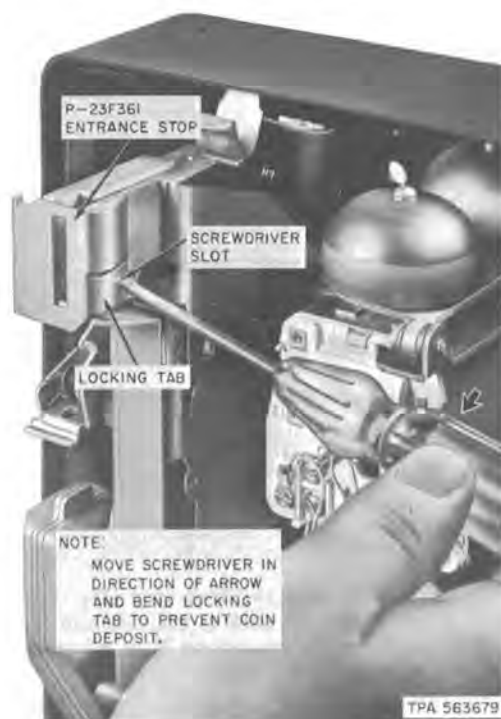

Fig. 13—Adjustment of Entrance Stop to Prevent Coin Deposit
4.21 The P-23F361 entrance stop (Fig. 13) is installed on the chute to minimize coin chute stuffing. When the coin release lever is operated, the entrance stop moves sideways and closes the coin slot.